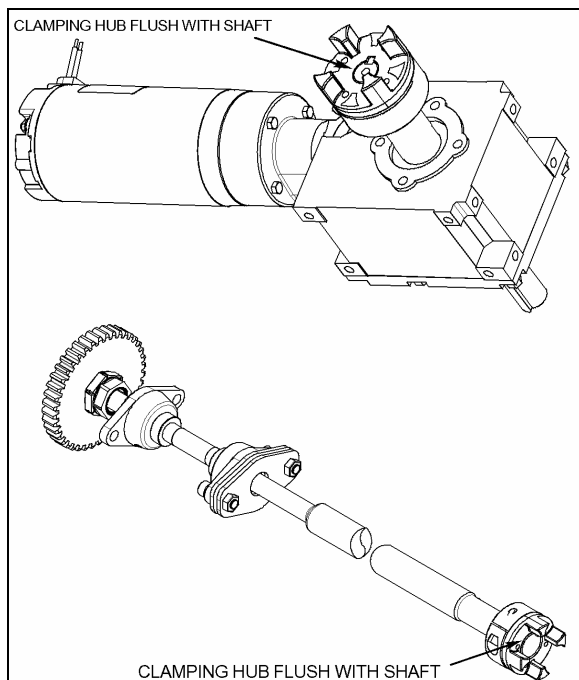

FIGURE 19: CLAMPING HUB POSITION ON SHAFTS
6. Install a clamping hub on one of the gearbox shaft (opposite side of gearbox mounting bolts) flush with the shaft extremity (see FIGURE 19). Tighten the clamping screw to a torque of 18 lbf-ft.
7. Install the second clamping hub on the gearbox shaft. Position the clamping hubs so that they are flush with the shafts extremity (see FIGURE 19).